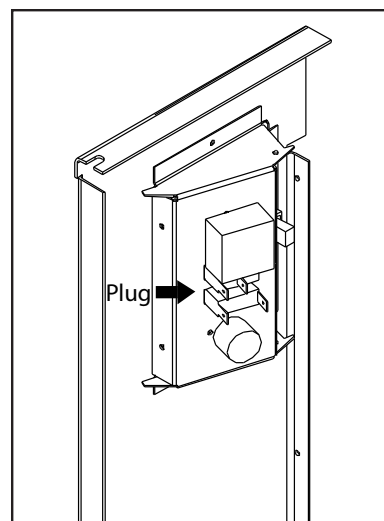

Figure 33: Control Panel Back - Timer.
After the surround has been assembled and is ready to be installed on the unit, plug the wiring harness into the control panel (see Figure 33).
3. Plug the wiring harness into the control panel (see Figure 33).